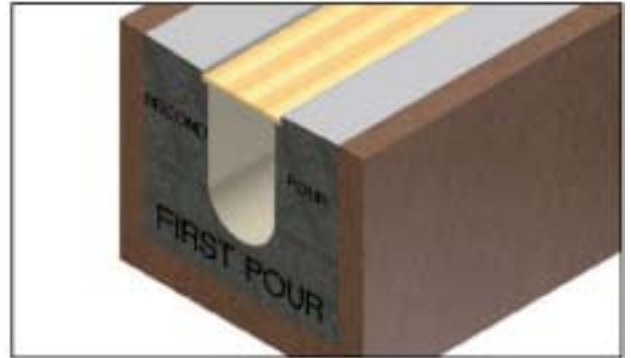

Figure 9.4
- Once the first pour has set the second pour can be placed and finished to level. See Fig. 9.4